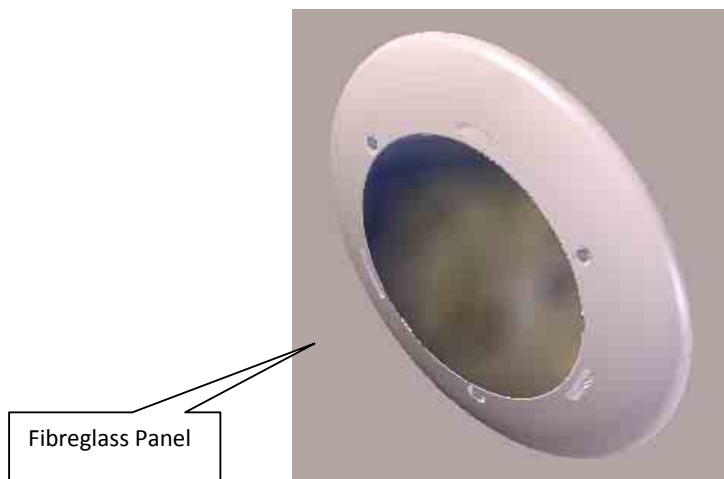

Fig. 20
17. Have ready dressing ring and three s/steel screws to finish up the work. Dressing ring also clip at (1pm o'clock) position. Do not over tight the screws do up with manual screwdriver (Fig. 20).